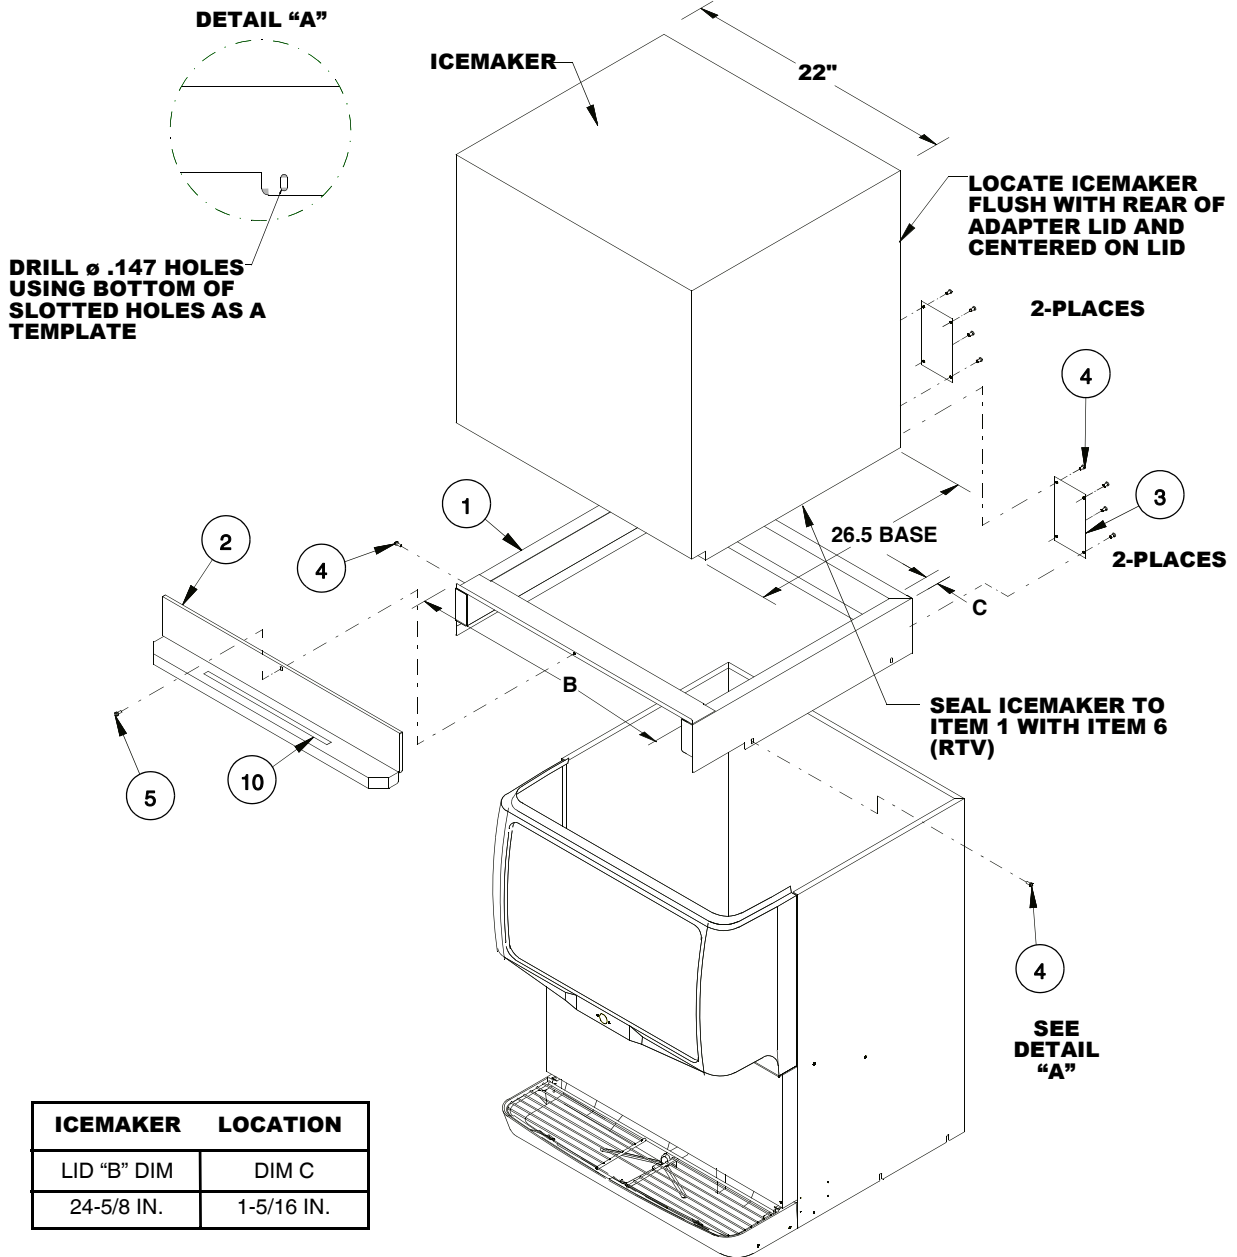
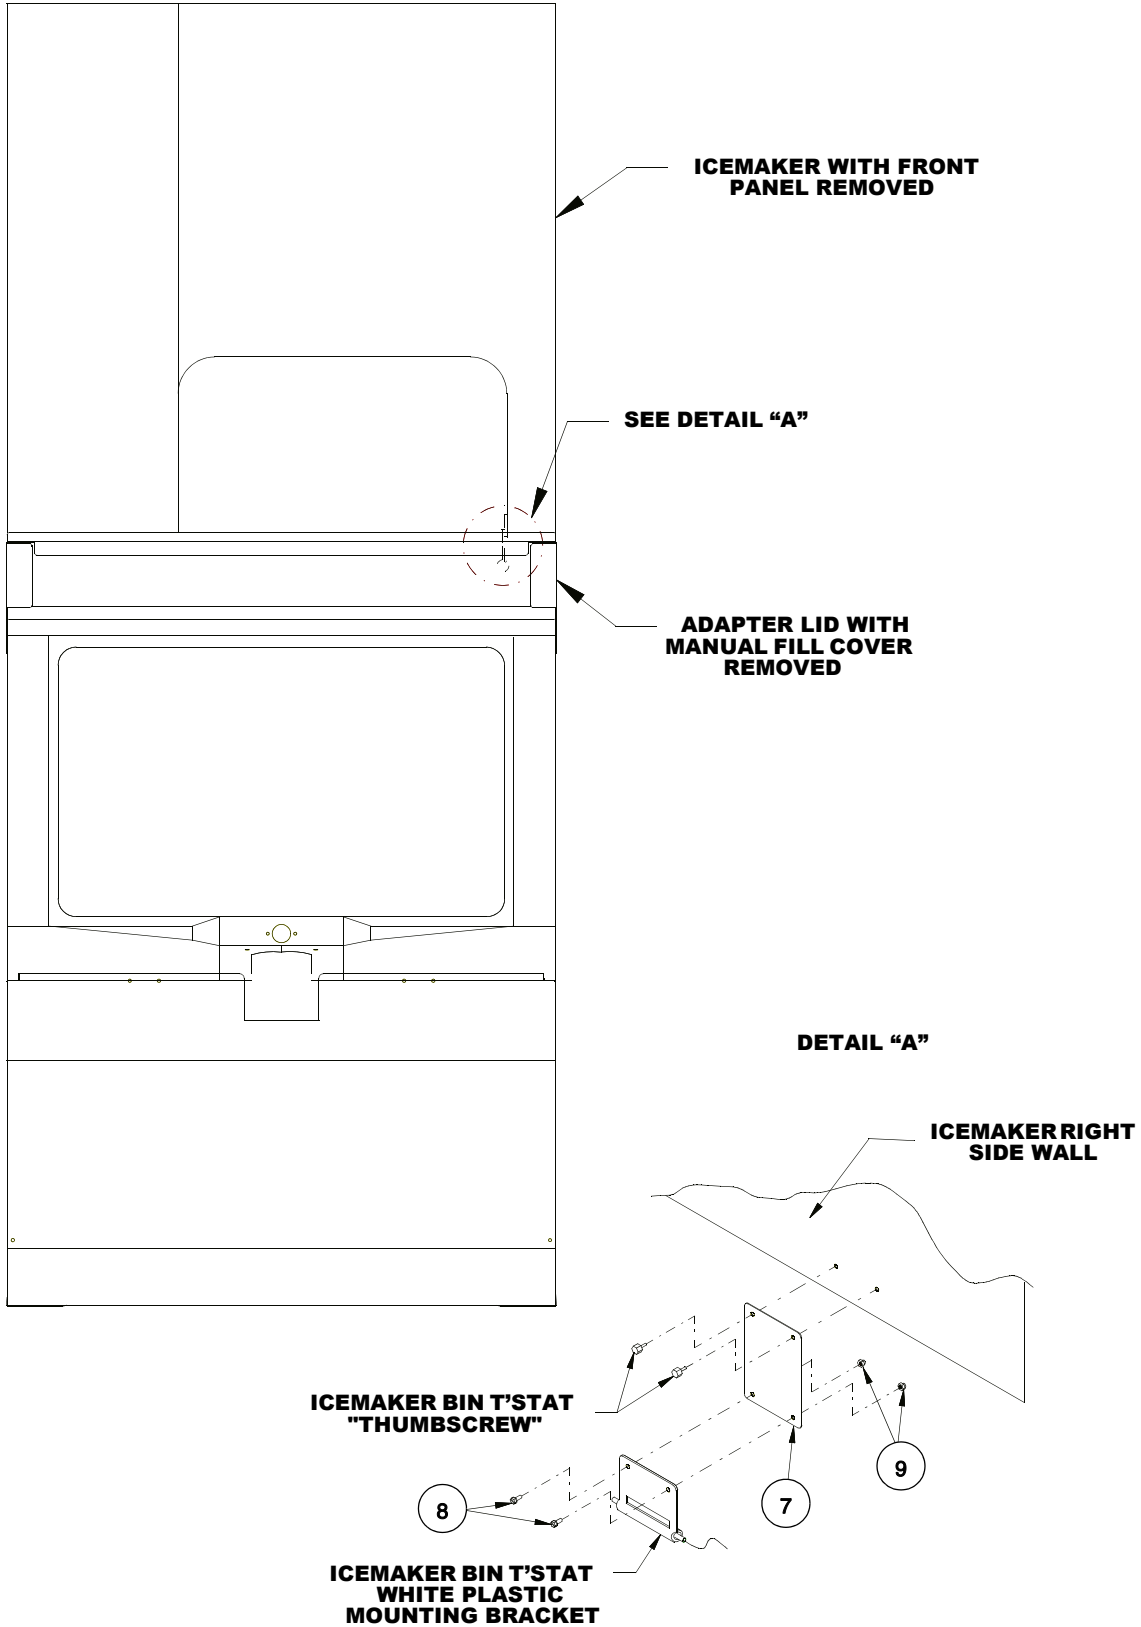

Figure 1.
Figure 2.
2. Position the ice maker adapter lid on the dispenser flush with the rear of the cabinet (see Figure 1).
- A. Locate the ice maker flush with the rear of the lid and centered as shown in Figure 1. Run a bead of RTV on the lid inside the perimeter of the ice maker base outline so that the ice maker sets on the RTV.
4. Using the slotted holes in the adapter lid as a template, drill four (4) 0.147" diameter holes (No. 26 drill) into the dispenser cabinet (see Detail A of Figure 1). Use extreme care not to drill into the ice storage bin. Secure the lid to the dispenser with four (4) No. 10 sheetmetal screws.
5. Install two (2) ice maker mounting brackets (see Figure 1). Using the brackets as templates, drill 0.147" diameter holes into the ice maker cabinet and the adapter lid. **Use extreme caution not to drill into any ice maker compo-**
7. **IMPORTANT:** The bin thermostat bracket (item 7) must be installed (see Figure 2) in order to prevent overfilling the ice storage bin
- B. Locate the bin thermostat on the lower-right side wall of the ice drop area and remove the two (2) thumbscrews that hold the bin thermostat in place.
- C. Mount the bin thermostat to the bracket (item 7) provided with the kit (Figure 1).
8. Install the caution label (item 10) on the manual fill cover (item 2) and secure the cover to the adapter lid with the No. 8-32 thumbscrew.